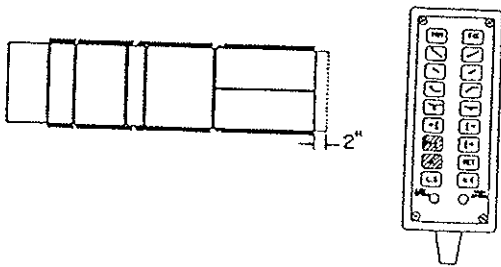
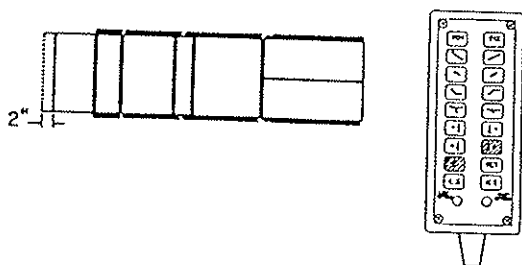

Figure 2-17. Longitudinal Slide - Foot
Figure 2-18. Longitudinal Slide - Head
h. Longitudinal Top Slide (End to End). To achieve longitudinal top slide movement toward the foot end, push both the LONGITUDINAL SLIDE-FOOT and ENERGIZE buttons. See figure 2-17. Movement of up to 2" from center may be obtained. To achieve longitudinal top slide movement toward the head end, push both the LONGITUDINAL SLIDE-HEAD and ENERGIZE buttons (figure 2-18.). Movement of up to 2" from center may be obtained.